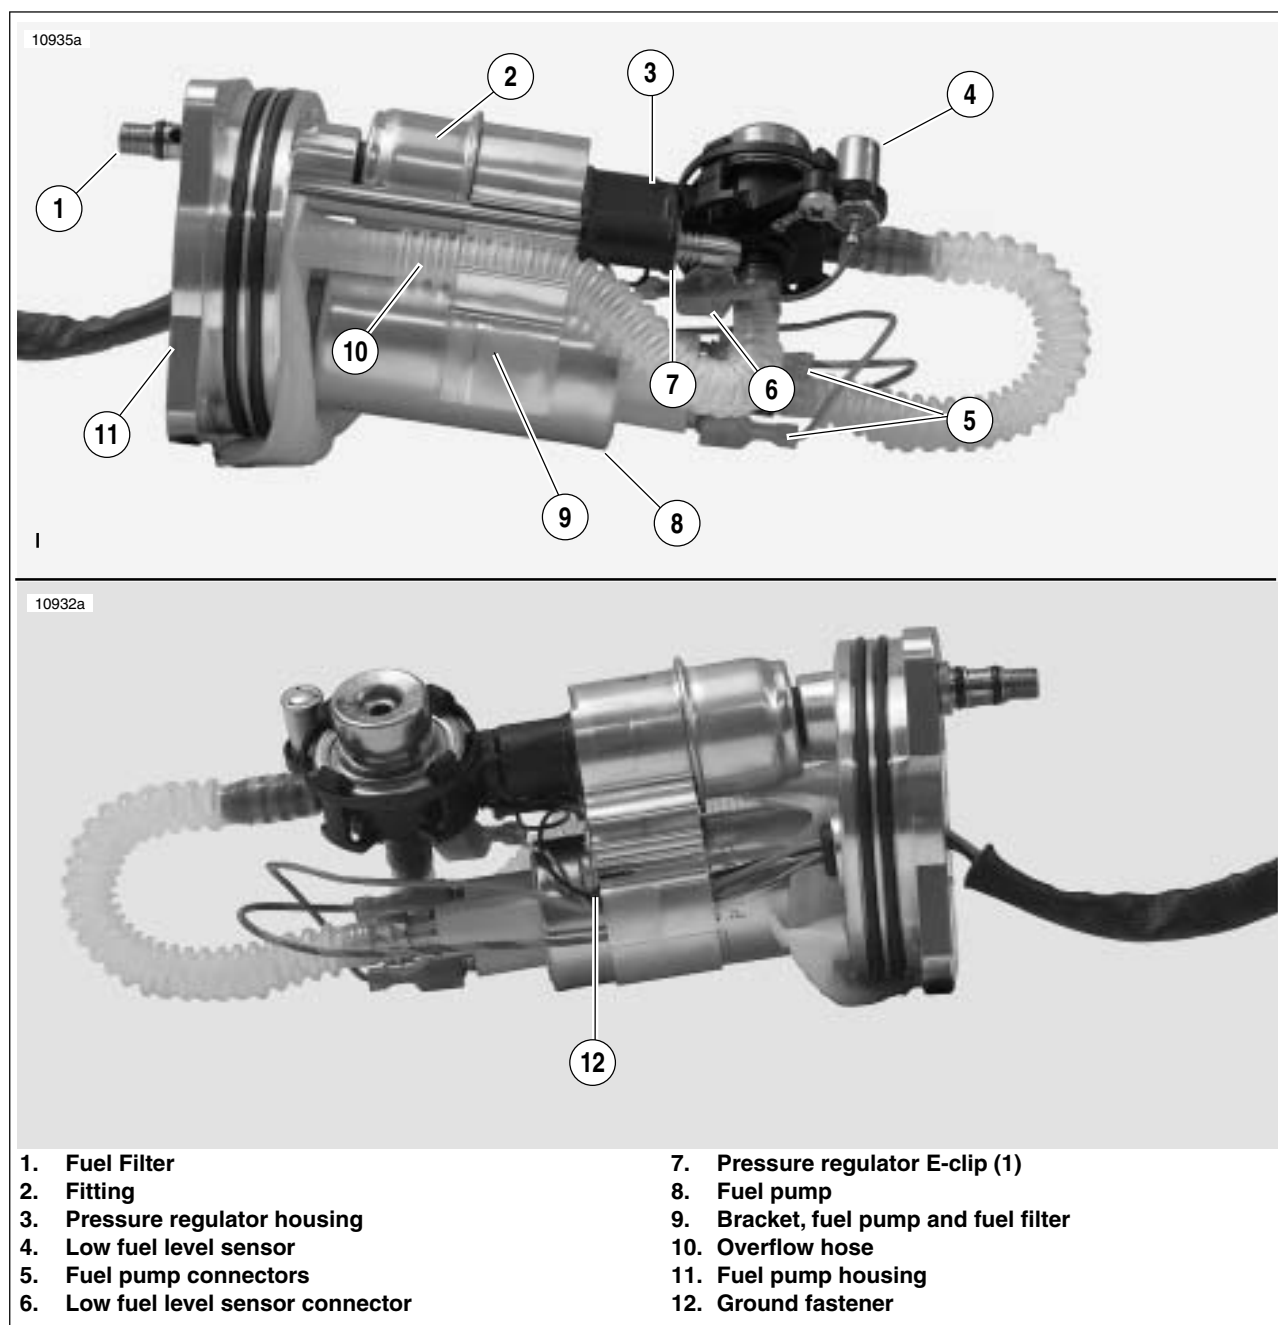
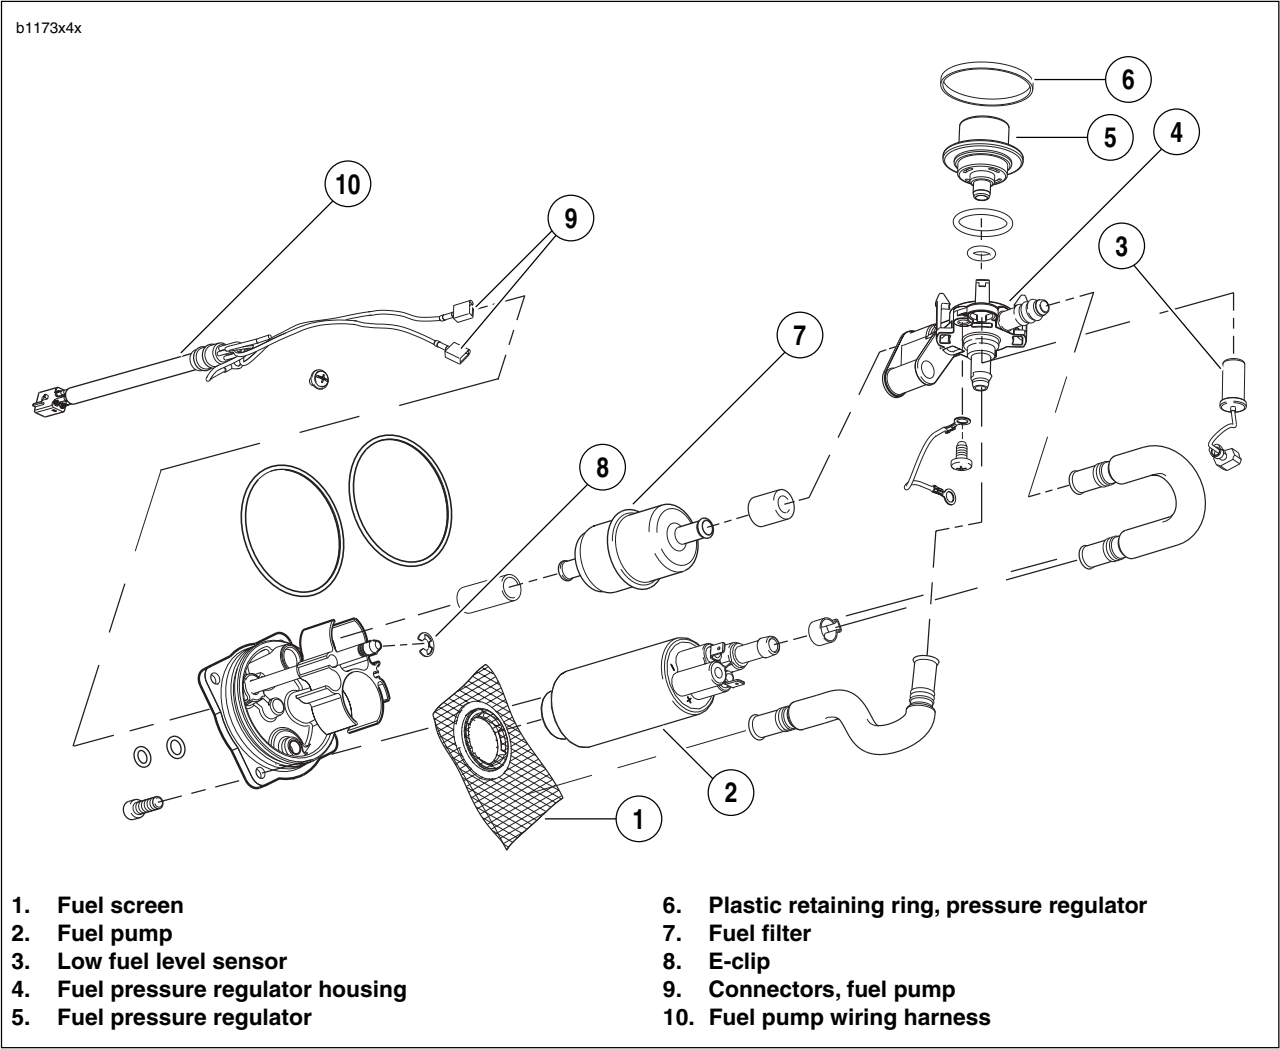

Figure 4-99. Fuel Pump Assembly (Left and Right Sides)
Figure 4-100. Fuel Pump Assembly
2. See Figure 4-99. Disconnect electrical connectors (5) & (6).
3. Remove ground fastener (12) from the fuel pump and fuel filter bracket (9).
4. Remove fuel pressure regulator E-clip (7).
5. Pull regulator housing (3) and fuel pump (8) with bracket (9).
6. Remove fuel filter (2).
7. Install rubber seals on **new** fuel filter and install filter into pump housing (11).
8. See Figure 4-99. Install regulator housing (3) and fuel pump (8) assembly.
9. Install E-clip (7) in bottom groove on shaft.
10. Install ground fastener (12) and connect ground wires to bracket (9) and tighten to 18-22 **in-lbs** (2.0-2.5 Nm).
11. Connect electrical connectors (5) & (6).
5. Pull regulator housing (3) and fuel pump (8) with bracket (9) as an assembly.
6. See Figure 4-100. Pry fuel screen (1) from fuel pump (2).
8. Install regulator housing assembly (4) & (5) and fuel pump (2).
9. Install E-clip (8) in bottom groove on shaft.
10. See Figure 4-99. Install ground fastener (12) and connect ground wires to bracket (9) and tighten to 18-22 **in-lbs** (2.0-2.5 Nm).
11. Connect fuel pump connectors (5) & (6).
2. See Figure 4-99. Disconnect fuel pump connector (5) and low fuel level sensor connector (6).
4. See Figure 4-99. Remove ground screw (12).
8. See Figure 4-99. Insert **new** fastener (12), through ground wire terminal and secure to bracket (9). Tighten to 18-22 **in-lbs** (2.0-2.5 Nm).
10. See Figure 4-99. Connect low fuel level sensor connector (6).
11. Connect fuel pump connectors (8). Connectors are two different sizes.